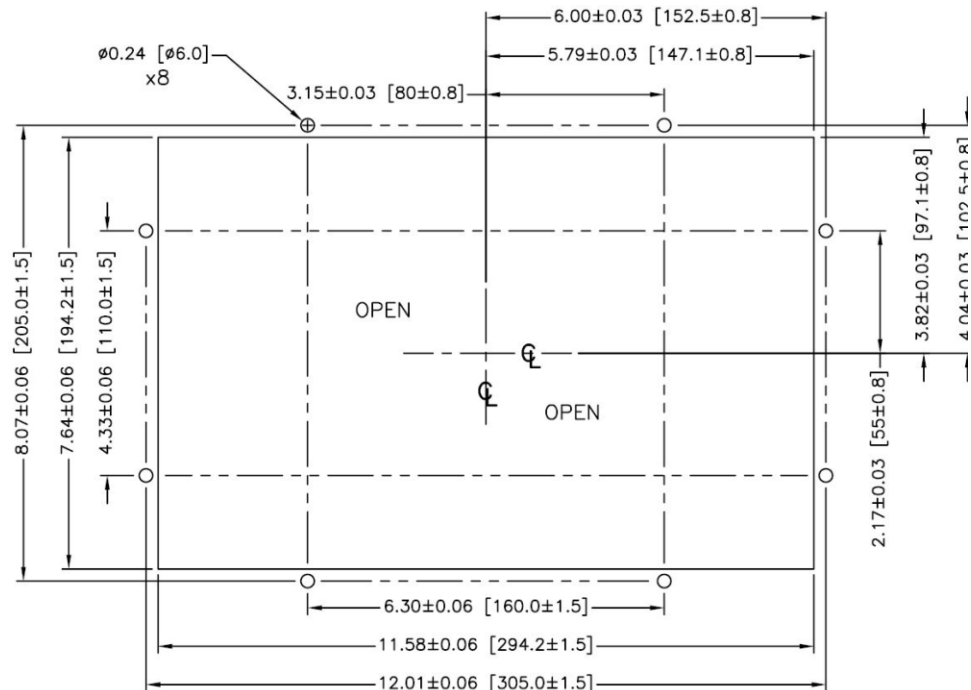

Figure A-3: Panel Cutout Dimensions
- Cut an opening and holes in the panel or industrial enclosure as indicated in the panel cutout dimensions shown in Figure A-3 in inches and [mm].